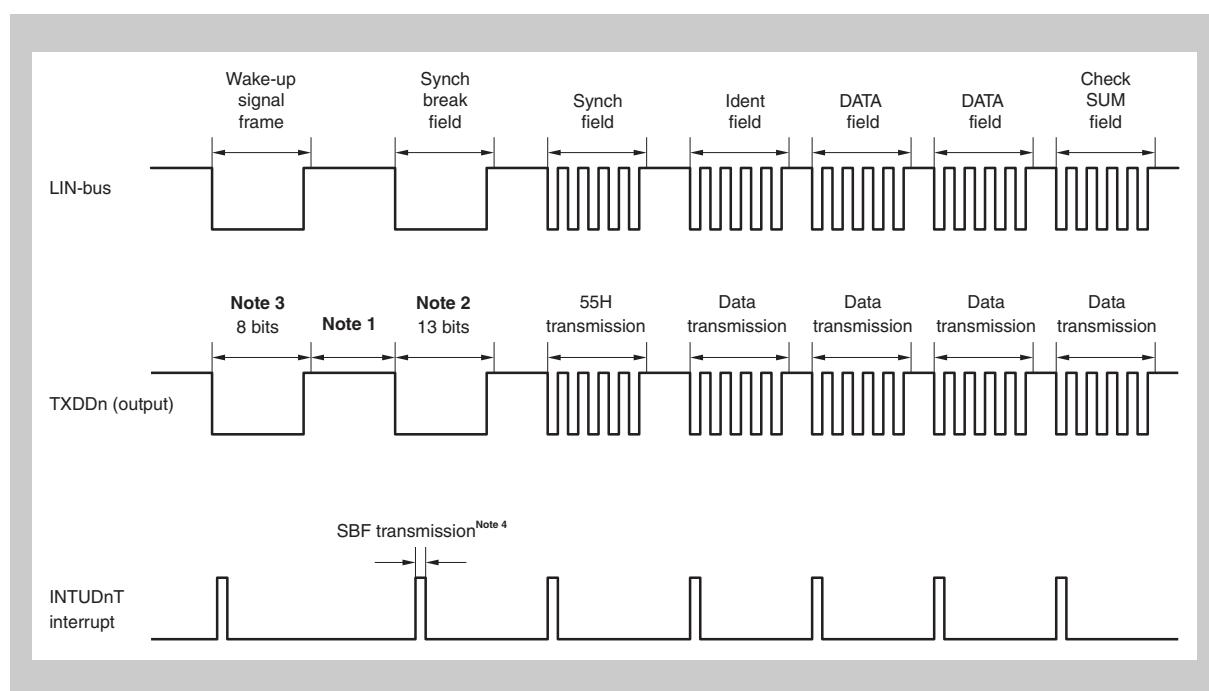
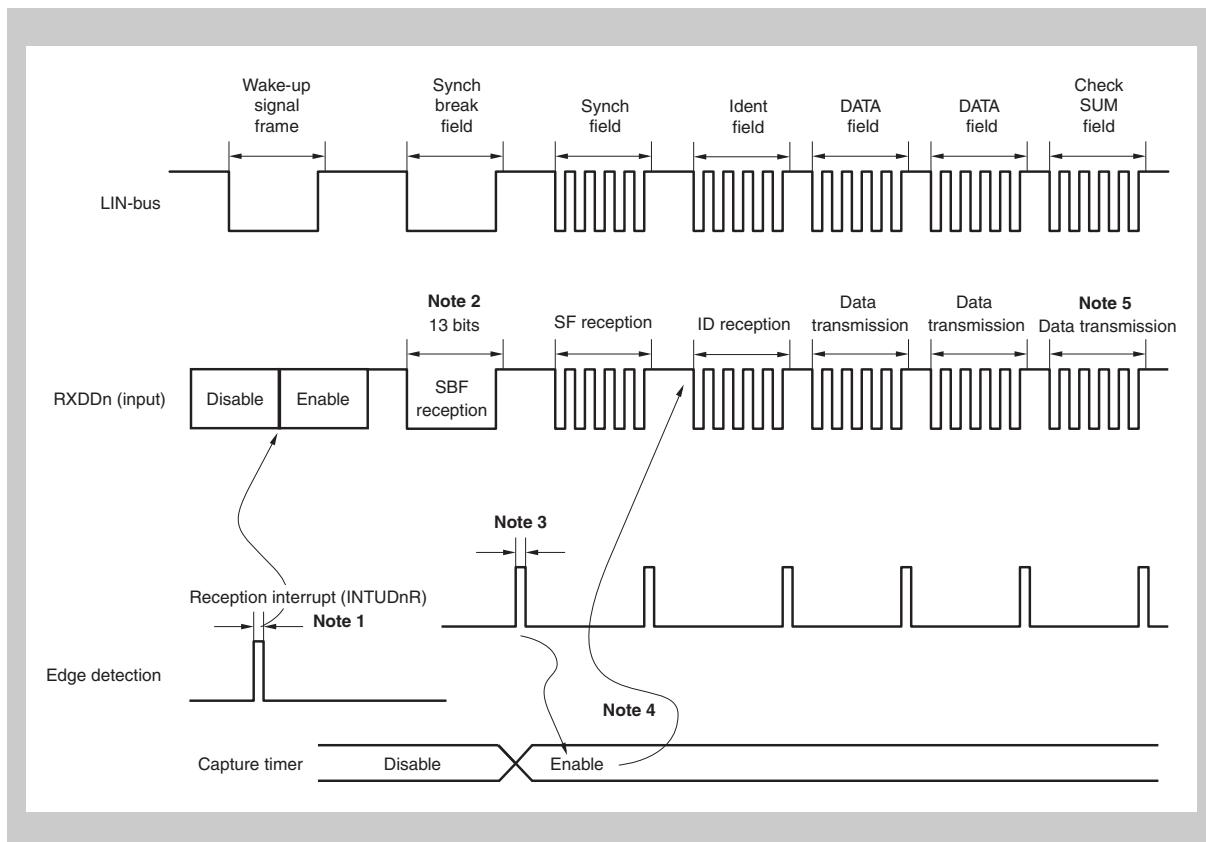

Figure 17-2 LIN transmission manipulation outline
Figure 17-3 LIN reception manipulation outline
*Figure 17-2 and Figure 17-3 outline the transmission and reception manipulations of LIN.*